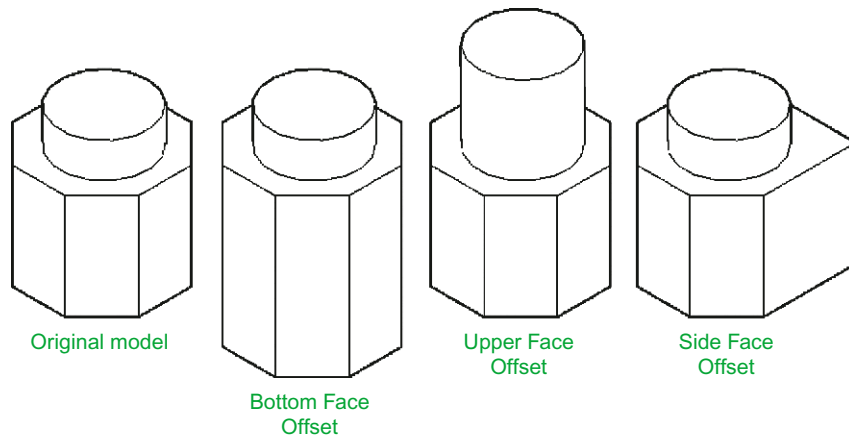

Fig. 18.7 Fourth example – Offset faces tool
### Fourth example – Offset faces (Fig. 18.7)
1. Construct the 3D solid drawing shown in the left-hand drawing of Fig. 18.7 from a hexagonal extrusion and a cylinder which have been united using the **Union** tool.